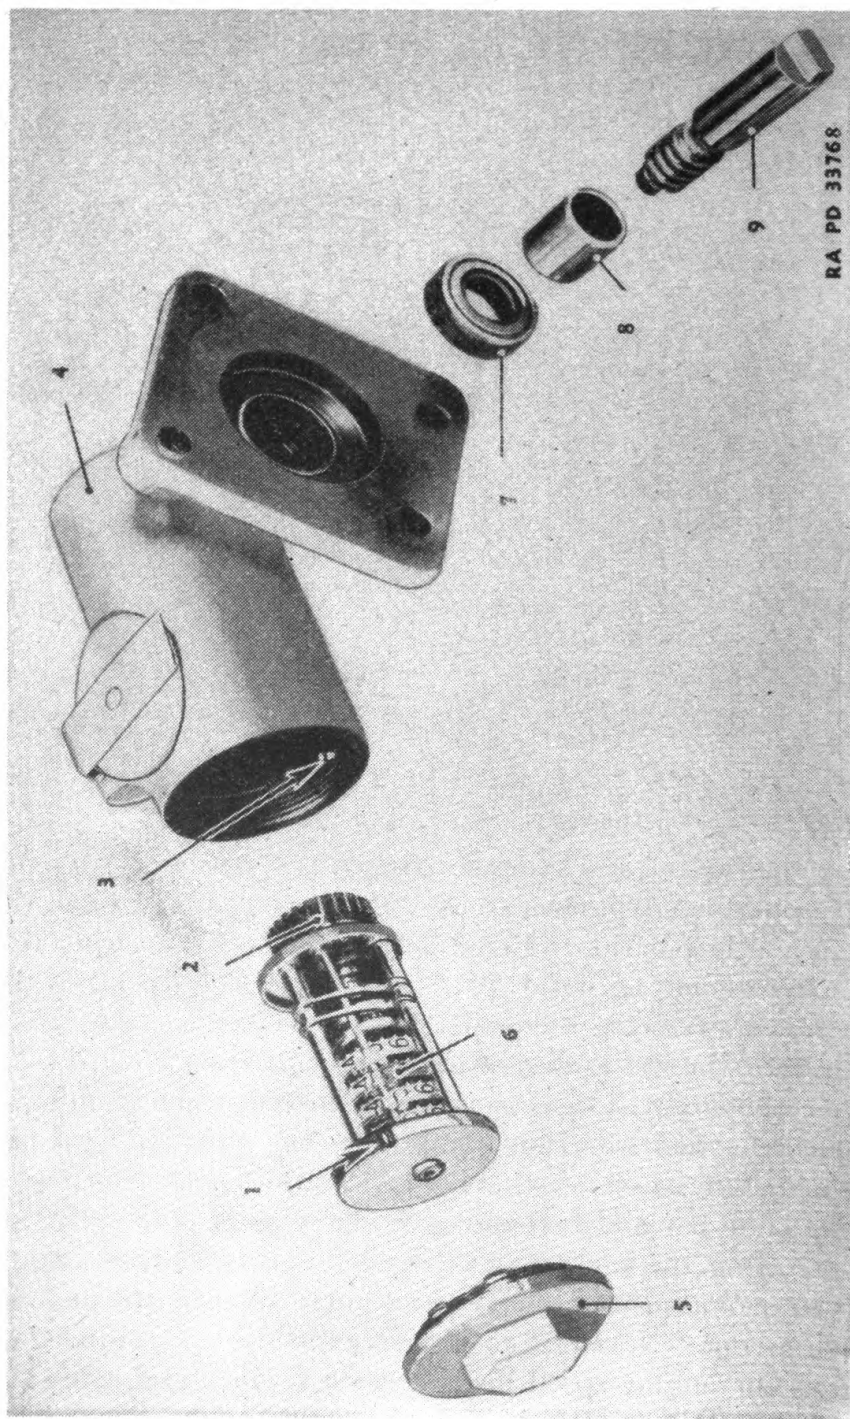

FIGURE 70.- Hour meter.
59. Hour meter.—*a.* The hour meter (fig. 70) can be disassembled after being removed from the engine by taking off retainer nut (5). Countermechanism (6), worm shaft (9), seal (7), and bushing (8) can then be removed in the order named.
b. In installation, place a small amount of a heat-resistant grease on worm gear of countermechanism (2). Aline notch (1) and dowel pin (3) when installing the countermechanism.
c. The wiping edge of the seal (7) should face toward the front of the engine.